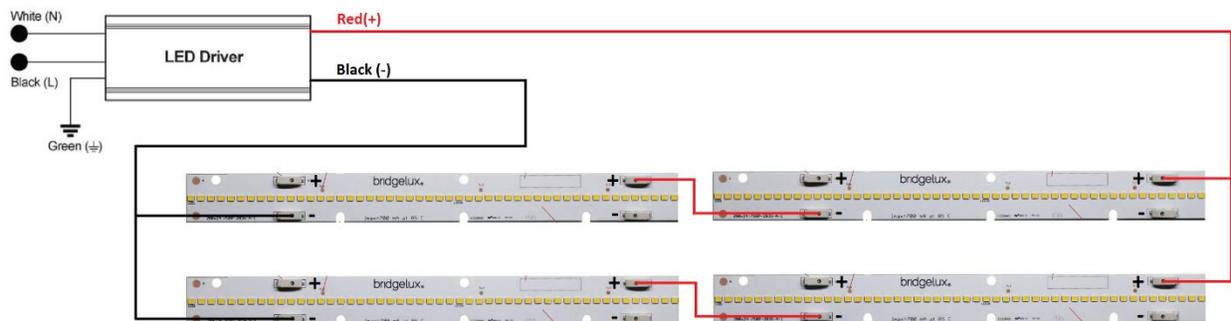

Figure 6: Showing two sets of two EB Series modules in Series Configuration, in parallel.
4. In order to maintain the appropriate levels of voltage and current, a hybrid series of modules can be created as in Figure 6.
By using proper circuit analysis, Figure 6 can aid in finding a suitable driver from a suitable company. Table 5 shows the number of channels required for various products, the typical and maximum ratings per